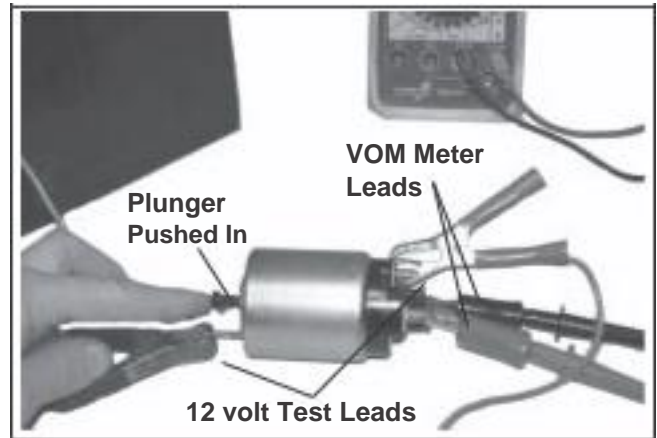

Figure 8-61. Testing Hold-In Coil/Solenoid Contact Continuity.
Test Use an ohmmeter set to the audible or Rx2K scale, and connect the two ohmmeter leads to the two large post terminals. Perform the preceding test (3) and check for continuity. See Figure 8-61. The meter should indicate continuity, if no continuity is indicated the solenoid should be replaced. Repeat test several times to confirm condition.